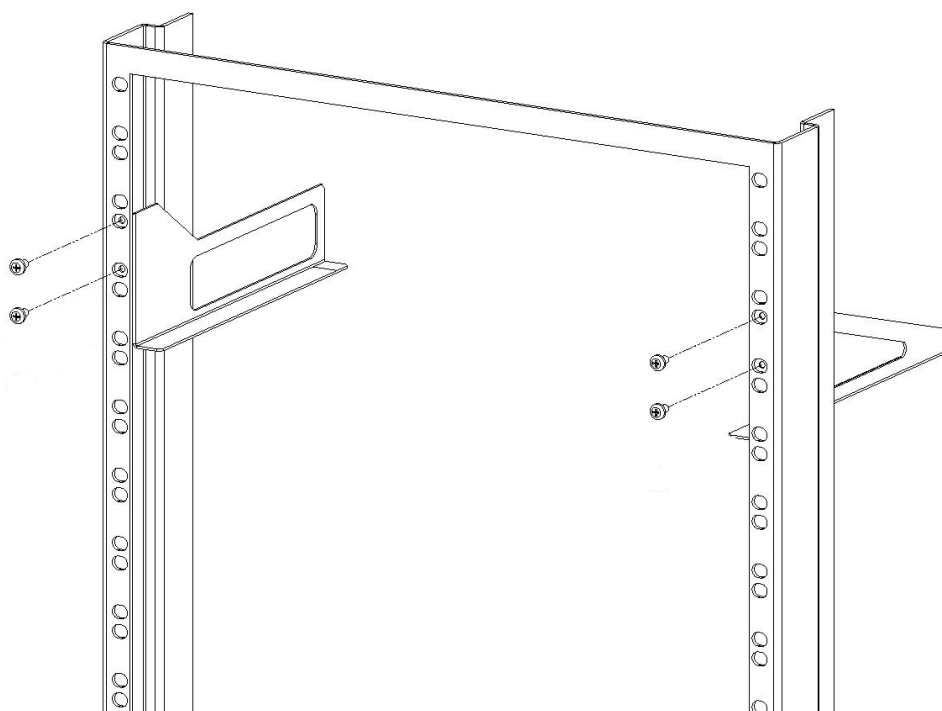

Figure 22. Strengthening Supports Installed in the Rack
1. The strengthening supports have four threaded holes, each one. Fix the supports in the rack using only the superior holes, as illustrated in the Figure 22, and check if its properly stuck in the rack;